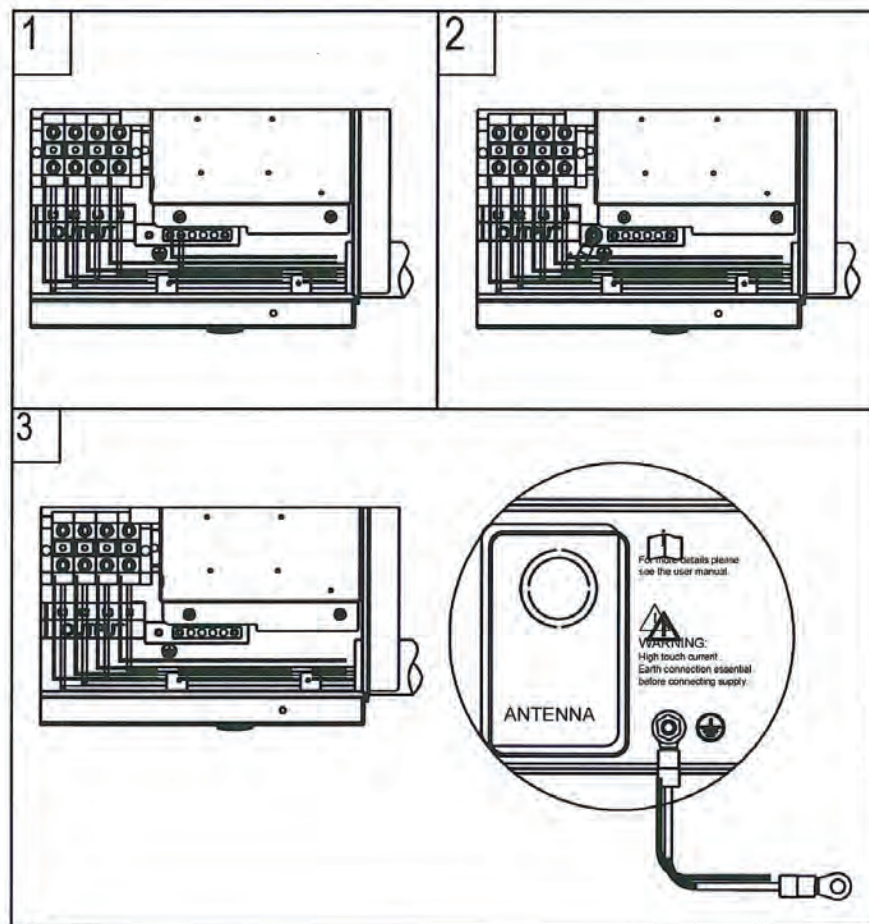
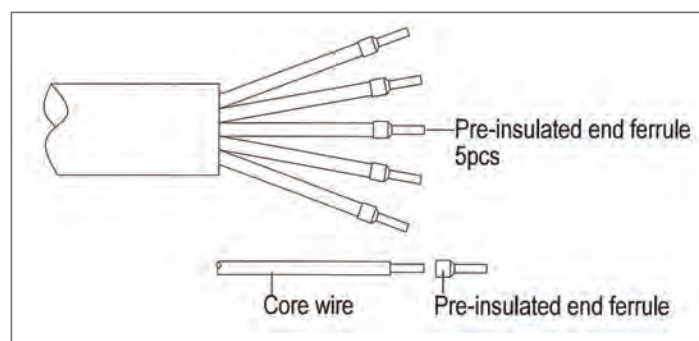

Figure 3-26(b) AC output and ground cable connection
Figure 3-27 AC output and ground cable set up
(1)The AC cables are recommended to be pre-insulated to ensure the cables are well connected. Connect the AC (L1, L2, L3, N) cables to the terminal block and the ground cable to the grounding bar. (see the 1st graph in Figure 3-26) Set up the cables referring to Figure 3-27.